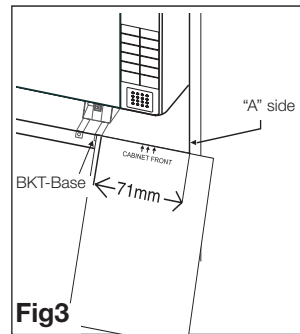

Fig3
3. Use the template to place the BKT-Base 71mm away from "A" side of the cabinet. (Fig3)